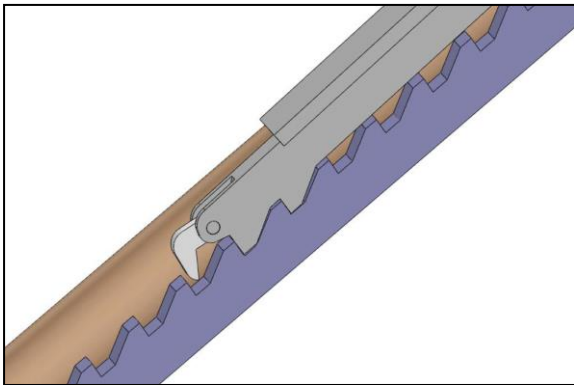

Fig. 30
3. Turn on the power and push the button **UP**, raise the lift to the working position and lock the mechanical self-locking bar to self-locking plate. (**See Fig.30**).